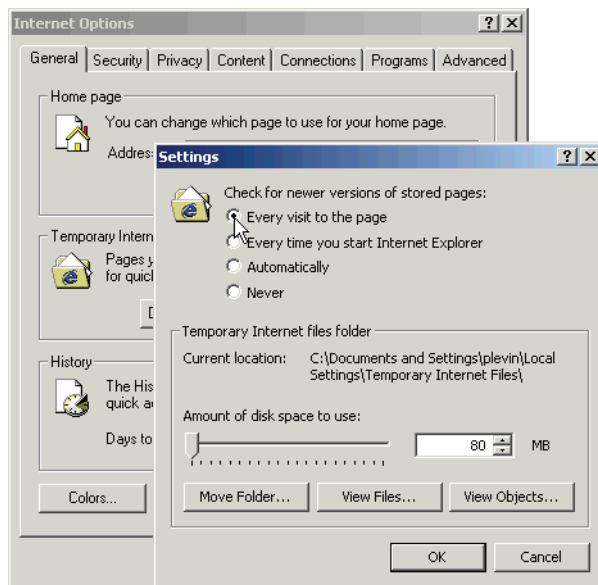

Figure 1-2 Configuring Internet Explorer
3. Click **Every visit to the page** under “Check for newer versions of stored pages,” as shown in Figure 1-2.